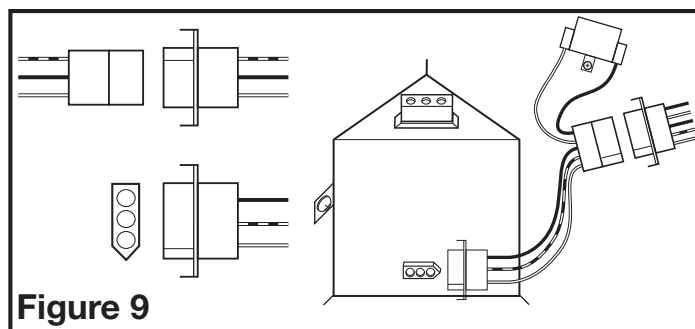

Figure 9
- Connect the fan wire harness by plugging the 3 pin quick connect end into the receptacle located on the side of the wire compartment cover. Confirm that the 5 pin quick connect end is plugged into the receptacle from the blower assembly. Connect the light wire harness by plugging the 3 pin rectangular quick connect end into the receptacle located at the top of the wire compartment. These cords will only fit one way into the receptacles (**Figure 9**).